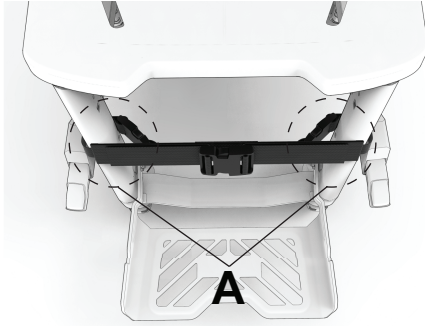

Figure 28 – Connect the side release buckles
1. Wrap the straps around the front chair legs and connect the side release buckles (A) (Figure 28).